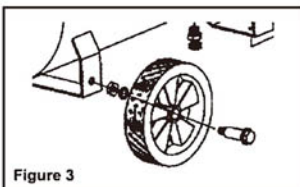

Figure 3
- (2) adjustable wrenches
- wheel assembly (Figure 3)